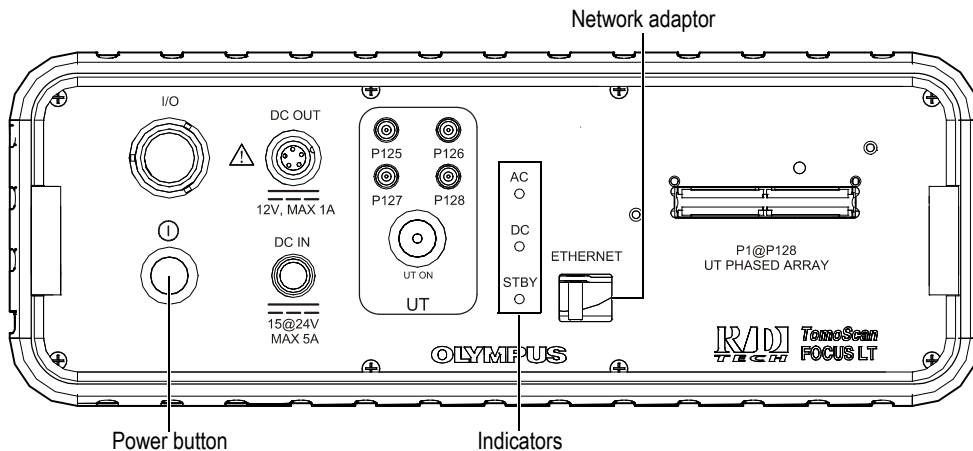

Figure 1-13 The FOCUS LT front panel
- ◆ For a FOCUS LT, press the power button on the front panel (Figure 1-13 on page 35), and then wait for the STBY indicator to stop blinking, indicating that the unit is ready to operate.